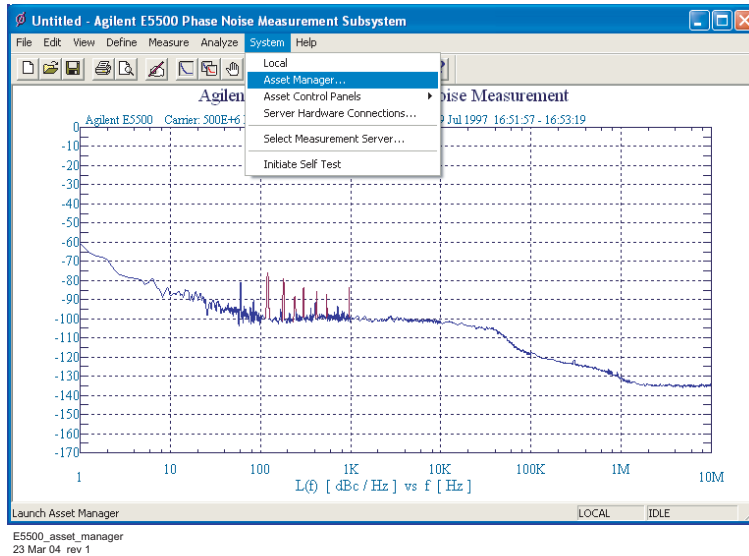

Figure 33 Asset Manager on System menu
- 1 On the E5500 main menu, select **System/Asset Manager**. See Figure 33.